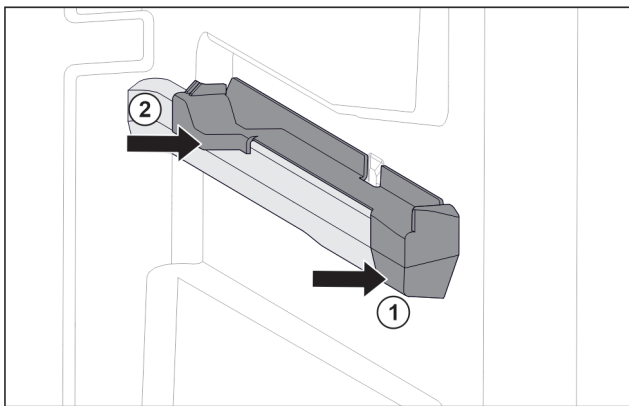

Fig. 125 Attachment on the right moulded rib
- ▶ Position attachment on moulded rib at the front. *Fig. 125 (1)*
- ▶ Press on attachment at the back. *Fig. 125 (2)*